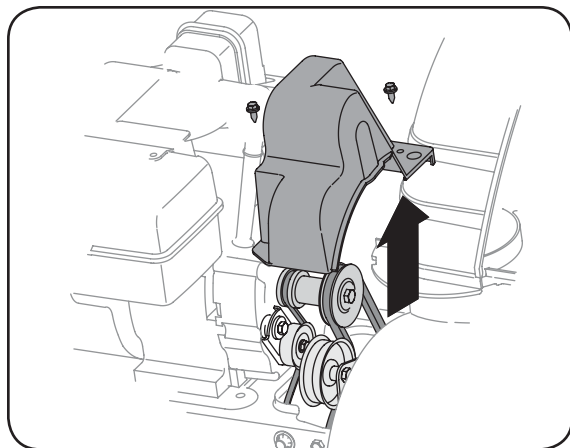

Figure 6-4
1. Remove the plastic belt cover on the front of the engine by removing the two self-tapping screws. See Figure 6-4.